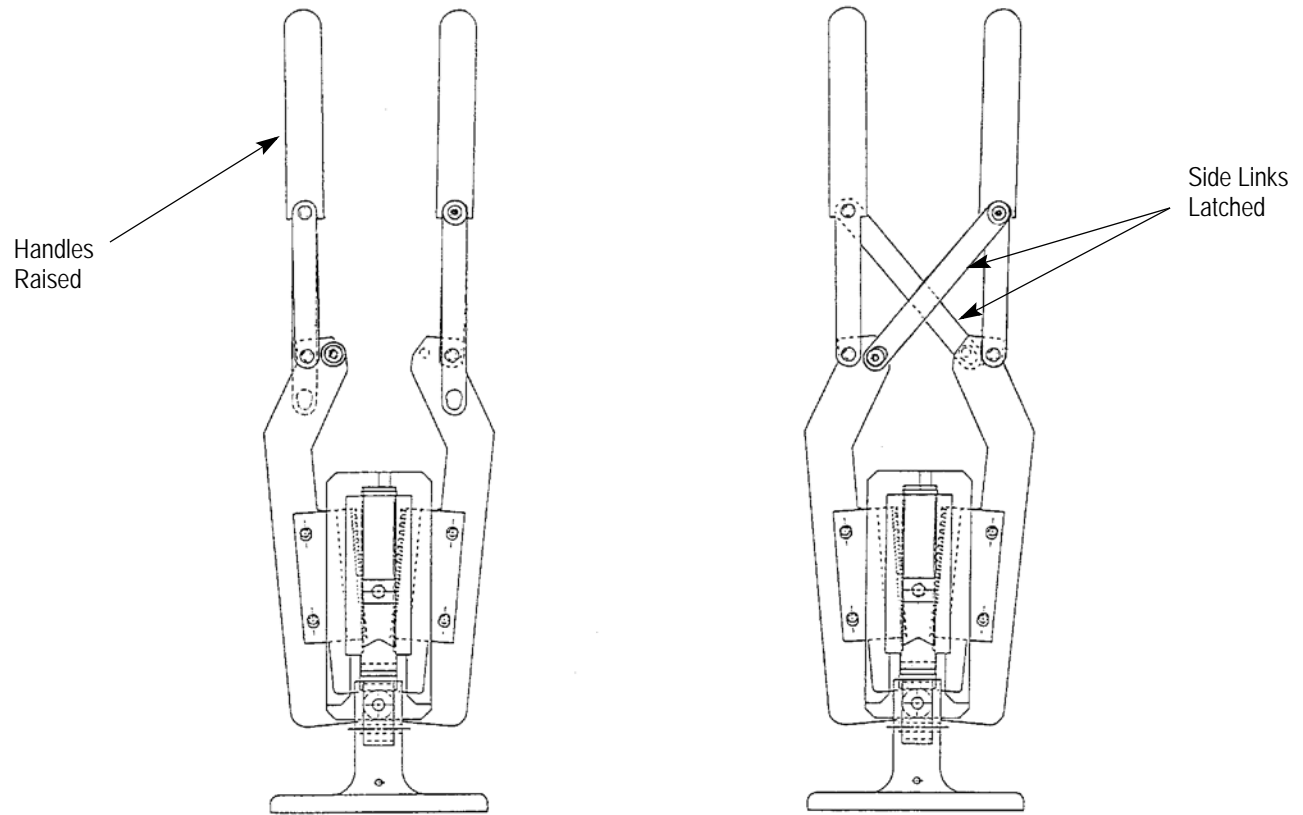

Figure 5
6. Raise handles and latch side links as shown in Figure 5.